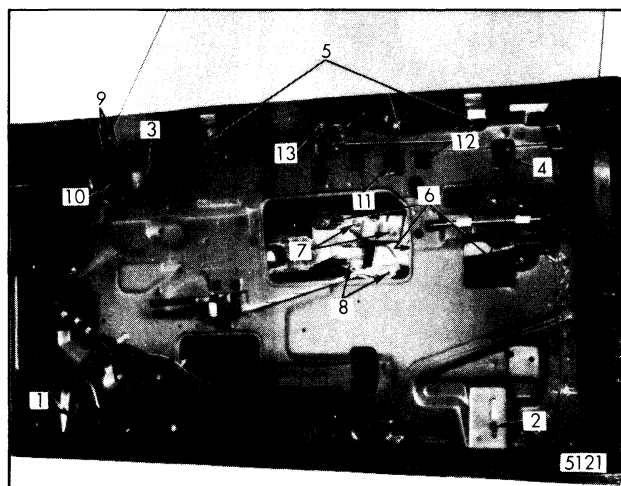
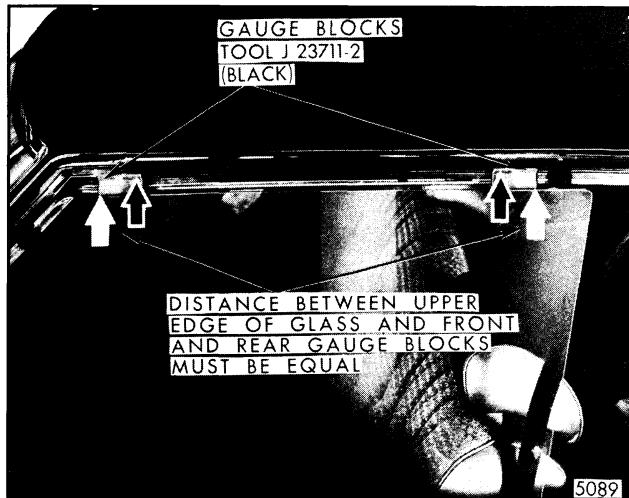
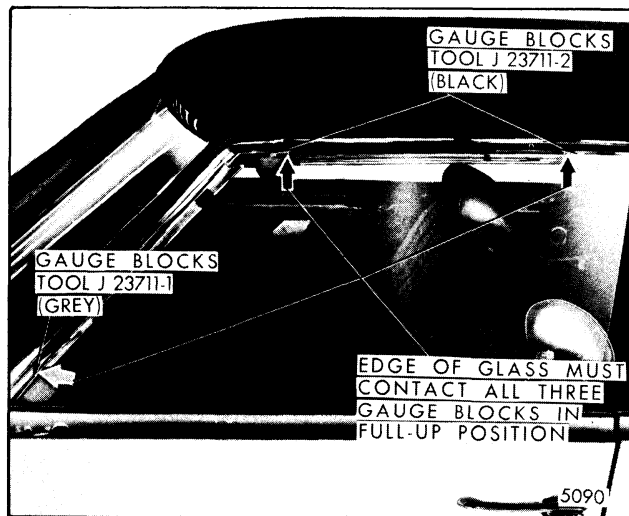
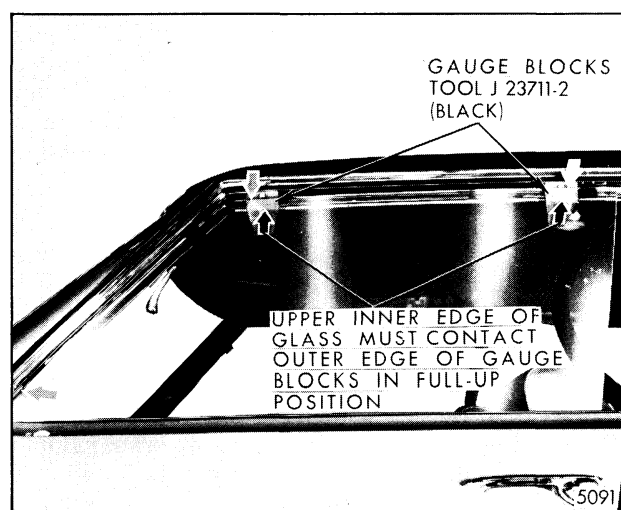

Fig. 5-91-Front Door Window Removal and Adjustment - "B, C and E" Two-Door Hardtop and Convertible Styles
Fig. 5-94-Front Door Window Alignment (Rotated "Cocked" Glass in Body Opening Adjustment)
Fig. 5-95-Front Door Window Alignment (Fore and Aft Adjustment)
Fig. 5-102-Front Door Window Alignment (In and Out and Up-Travel Adjustment)
travel stops ("3" and "4", Fig. 5-91) and lower sash upper guide attaching nuts ("7", Fig. 5-91) and raising or lowering front edge of glass in relation to rear edge of glass, as required, to parallel upper edge of glass with side roof rail weatherstrip. Then, torque lower sash upper guide attaching nuts to 72 inch pounds and raise glass to desired height to establish proper contact with side roof rail weatherstrip. Torque up-travel stop bolts to 60 to 90 inch pounds.
window in or out in relation to side roof rail weatherstrip. Remove front door window guide pin stabilizer attaching bolts and remove pin stabilizer ("13", Fig. 5-91). Loosen lower sash lower guide bolts ("8", Fig. 5-91) and front and rear belt trim support retainer bolts ("5", Fig. 5-91) and position guide inboard or outboard as required. Outboard adjustment of the guide assembly moves upper edge of glass inboard. Conversely, inboard adjustment moves the upper edge of glass outboard. With glass in a full-up position, position stabilizer strip against inner surface of glass and tighten attaching bolts. Reinstall guide pin stabilizer through guide support. Adjust pin inboard to gain firm contact
**3. WINDOW TOO HIGH OR LOW IN RELATION TO SIDE ROOF RAIL WEATHERSTRIP** - To adjust window up-travel, loosen front and rear up-travel stops ("3" and "4", Fig. 5-91) and operate window to desired position to establish proper glass to side roof rail weatherstrip contact. Torque up-travel stop bolts to 60 to 90 inch pounds.
**4. WINDOW TOO HIGH OR LOW WHEN IN A DOWN POSITION IN RELATION TO THE BELTLINE** - To adjust window down-travel, loosen front and rear window down-travel bumper supports ("1" and "2", Fig. 5-91) and lower or raise window to desired full-down glass height. Then, position front and rear bumper against lower edge of glass and torque bumper support attaching bolts to 60 to 90 inch pounds.
**5. WINDOW TOO FAR FORWARD OR REARWARD IN RELATION TO PILLAR WEATHERSTRIP OR ADJACENT BODY GLASS** - To adjust window forward or rearward, loosen lower sash guide plate bolts ("6", Fig. 5-91) and reposition glass as necessary. The guide plate to glass attaching locations are slotted to permit fore and aft adjustment of the glass. Torque lower sash guide plate attaching bolts to 72 inch pounds.
**6. WINDOW MECHANISM BINDS WHEN OPERATING WINDOW ASSEMBLY** - Ease of window operation and window stability depend to a great extent on the adjustment of the belt trim support retainers at the belt-line ("5", Fig. 5-91), the glass bearing plate ("9" and "10", Fig. 5-91) and the guide pin stabilizer ("13", Fig. 5-91). The belt trim support retainers ("5") should contact the glass throughout the full cycle of the window. Due to slight variations in glass contour, however, in some cases the strip may lose contact with the glass halfway through the cycle. This is permissible provided it does not result in loose glass. Contact should be sufficient to stabilize glass, but not restrict ease of window operation. The glass bearing plate is adjustable in and out and should contact a glass bearing button (on glass) when glass is in a full-up position. After previous adjustments have been performed, adjust the guide pin stabilizer "13" into contact with the guide support and tighten attaching bolts. Torque all previously loosened attachment components to 60 to 90 inch pounds.
2. Detach side roof rail weatherstrip at lower front corner and carefully remove from retainer over the door window, as shown in Figure 5-95.
3. Lower front door and rear quarter windows and install gauge blocks, tool J-23711-2 (black) or equivalent into side roof rail weatherstrip retainer above upper front and rear corners of the glass as shown in Figure 5-95. Then, install gauge block, tool J-23711-1 (grey), or equivalent into windshield pillar retainer slightly above beltline.
4. Working from inside body, with door in the closed position remove front door guide pin stabilizer attaching bolts and remove pin stabilizer ("13", Fig. 5-91). Loosen front and rear up-travel stops ("3" and "4", Fig. 5-91) belt trim support retainers ("5", Fig. 5-91) and glass bearing plate ("10", Fig. 5-91). To loosen bearing plate, remove stud nut and turn adjusting stud "10" clockwise until bearing plate is out of contact with bearing button on glass.
- illustrated in Figure 5-94. If distance (space) between the upper edge of glass and the front and rear gauge blocks is equal (as shown in Fig. 5-94), proceed with Step 6. If distance (space) between the upper edge of the glass and both upper gauge blocks is not equal, loosen lower sash upper guide attaching nuts ("7", Fig. 5-91) through access holes ("11", Fig. 5-91) and adjust glass as necessary.
If upper and forward edge of glass contacts all three gauge blocks simultaneously (as shown in Fig. 5-95), proceed with Step 7. If upper and forward edge of glass does not contact all three gauge blocks simultaneously, loosen fore and aft adjustment on lower sash guide plate ("6", Fig. 5-91) through access holes ("12", Fig. 5-91) and move glass forward or rearward until the edge of glass contacts all three gauge blocks in the full-up position.
7. Completely loosen lower sash lower guide assembly ("8", Fig. 5-91). Apply firm outboard pressure against upper end of front guide to remove slack in system and to hold upper inner edge of glass inboard against the outer edge of the gauge blocks, as shown in Figure 5-102. Then, tighten lower sash lower guide assembly attaching bolts.
8. With glass in full-up position against upper gauge blocks, tighten up-travel stops ("3" and "4", Fig. 5-91) and adjust belt trim support retainers ("5", Fig. 5-91) outboard for a light tension against glass. Then turn glass bearing plate adjusting stud counterclockwise until the plate assembly contacts the bearing button or glass. Reinstall front door guide pin stabilizer through stabilizer guide support. Adjust pin inboard to gain firm contact with guide support, then reinstall and tighten attaching bolts.
2. Remove front and rear up-travel stops ("3" and "4", Fig. 5-91), belt trim support retainers ("5", Fig. 5-91) and window guide pin stabilizer ("13", Fig. 5-91).
3. Remove glass bearing plate adjusting stud nut ("10", Fig. 5-91) and turn adjusting stud clockwise until bearing plate is out of contact with bearing button on glass.
4. Remove lower sash guide plate assembly to glass attaching nuts ("6", Fig. 5-91). Tilt upper edge of glass inboard to disengage glass from guide plate, then remove the window from the door by lifting straight-up.
7. Completely loosen upper ends of front and rear guides. Apply firm outboard pressure against upper end of the front guide to remove slack in the system and to hold upper inner edge of glass inboard against outer edge of gauge blocks, as shown in Figure 5-102. Then, tighten, upper guide attaching bolts. Repeat operation with rear guide. Guides will now be coordinated to the plane of the glass.